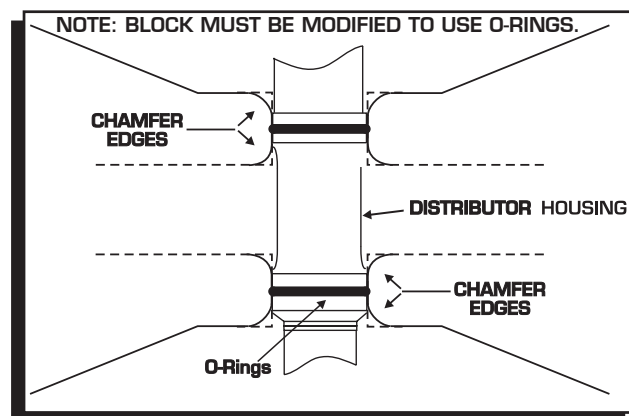

Figure 3 Modified Block for use with O-Rings
5. Install the gasket or O-ring and apply a liberal amount of the supplied lubricant to the distributor gear. CHEVY: The supplied O-rings can only be used if the block has been modified as shown in Figure 3.